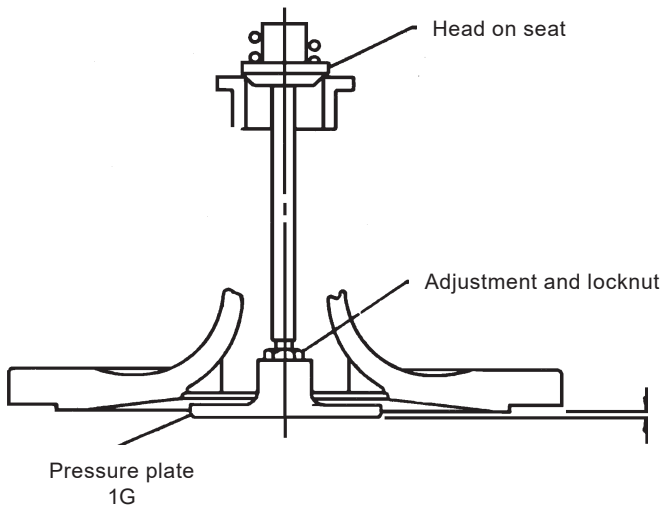

Fig. 5
Inspecting and Replacing Main Valve Diaphragms (Refer to Figs. 5, 6, 7, and 9)
1. Unscrew copper tubing connection at (G).
8. Make certain pressure plate (1G) is set properly. (Refer to Fig. 5.)